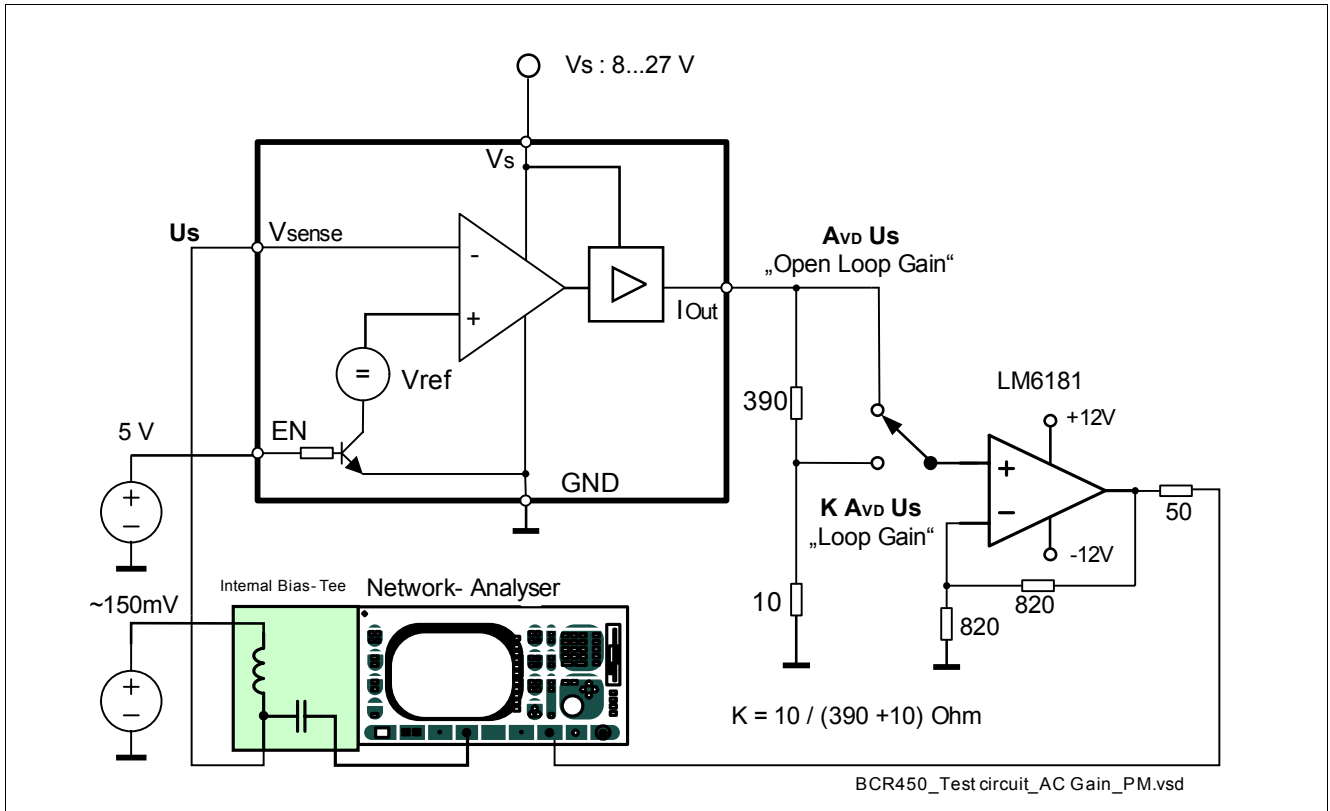

Figure 3 Electrical test circuit for open loop gain, loop gain and phase margin
1) $V_{\text{out}} = 6\text{ V}$; S2, S6, S8, S9 = on; R1 = 390 Ω ; R2 = 10 Ω , see Figure 3